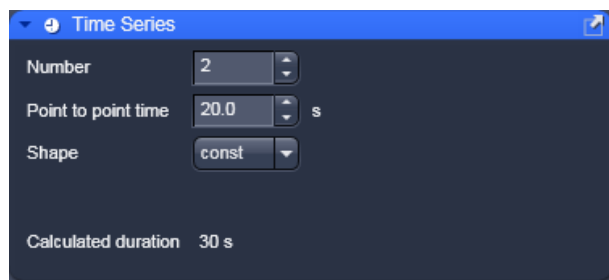

Fig. 313 Time Series tool – constant shape activated
- Click on the **Time Series** tool tab to open or close the **Time Series** tool (Fig. 313).